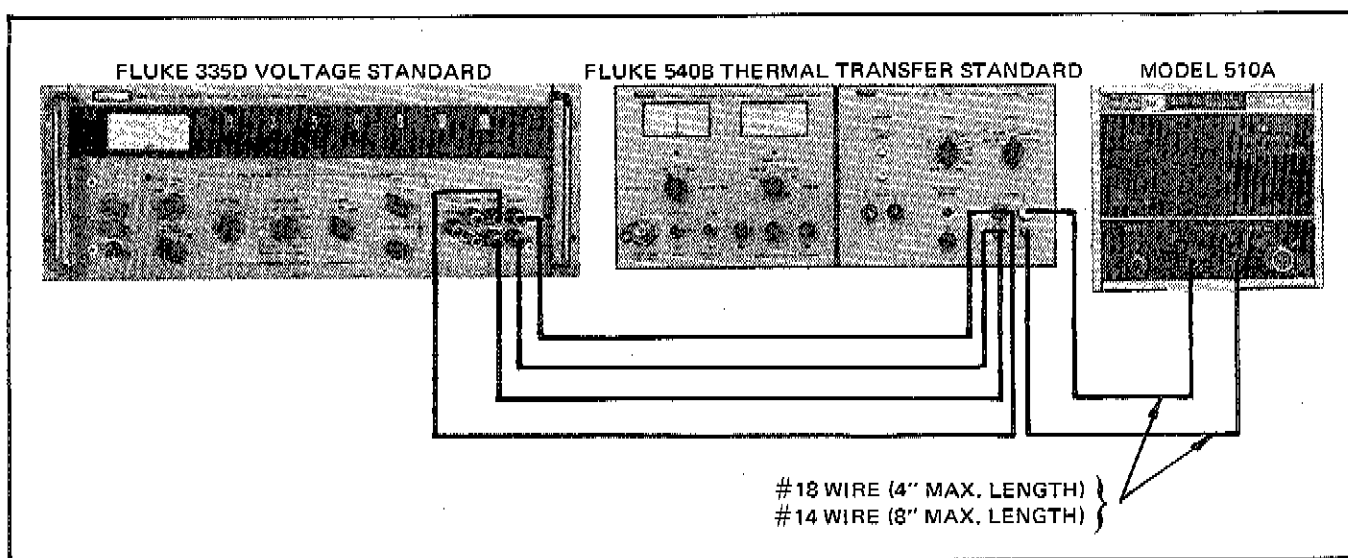

Figure 4-7. THERMAL TRANSFER EQUIPMENT CONNECTIONS
- a. Make the equipment connections shown in Figure 4-7.